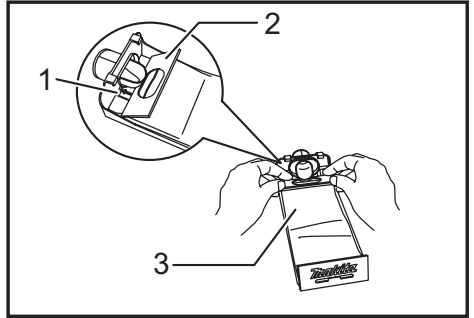

Fig.6
► Fig.6: 1. Groove 2. Front fixing cardboard 3. Front side of paper dust bag